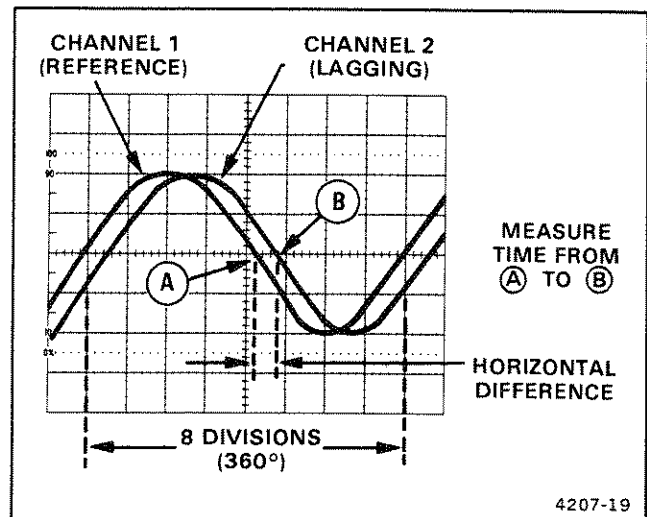
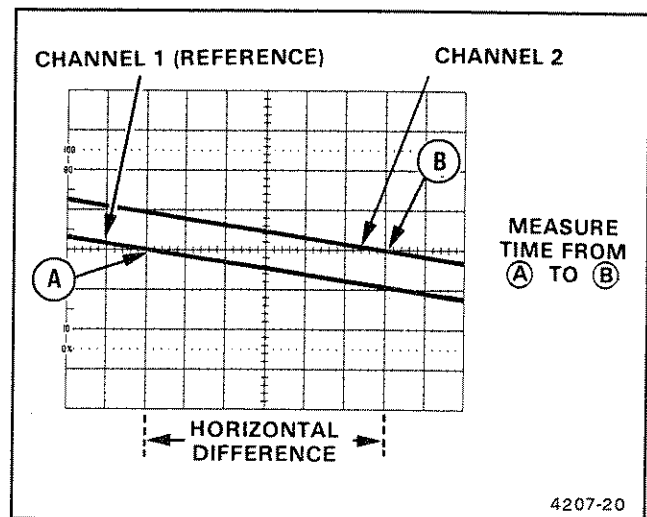

Figure 2-17. Phase difference.
Figure 2-18. High-resolution phase difference.
9. Position the displays and adjust the SEC/DIV Variable control so that one reference-signal cycle occupies exactly 8 horizontal divisions at the 50% rise-time points (see Figure 2-18). Each division of the graticule now represents  $45^\circ$  of the cycle ( $360^\circ \div 8$  divisions), and the horizontal calibration can be stated as  $45^\circ$  per division.
Example: The horizontal difference is 0.6 division with a graticule calibration of  $45^\circ$  per division, as shown in Figure 2-17.
EXAMPLE: If the sweep speed were increased 10 times with the magnifier (X10 Magnifier knob out), the magnified horizontal calibration would be  $45^\circ/\text{division}$  divided by 10 (or  $4.5^\circ/\text{division}$ ). Figure 2-18 shows the same signals illustrated in Figure 2-17, but magnifying the displays results in a horizontal difference of 6 divisions between the two signals.